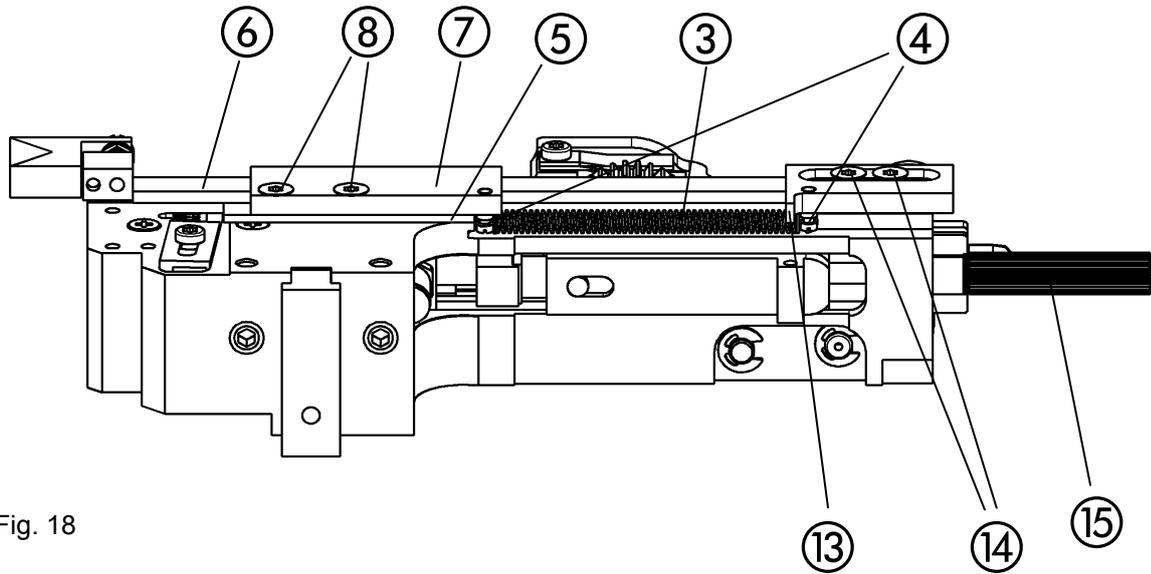

Fig. 18
- Fig. 18 -
- Attach tension spring ③ to the two spring bolts ④.
- Mount distance plate ⑤ on stitching head.
- Fig. 18, Fig. 18a, Fig. 19 -